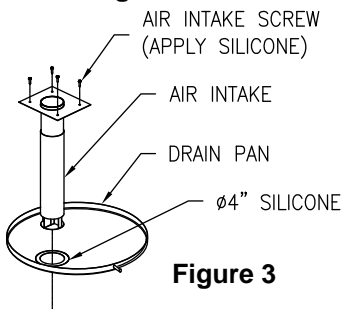

Figure 3
5. Apply 4" diameter circle of silicone around bottom of air intake plate and screws used to secure air intake to floor for proper water tight sealing (see Figure 3).